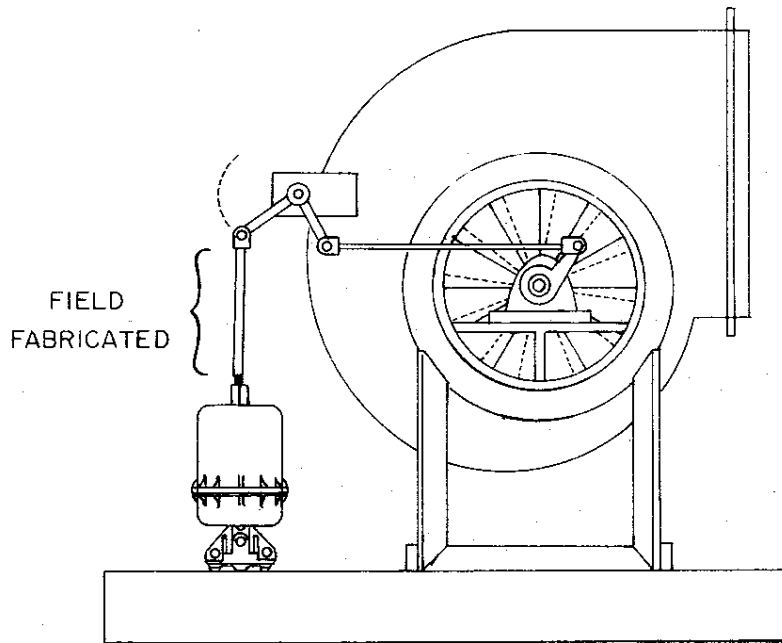

Fig. 7. See Pipe and Bar Stock Applications (page 6)
** Torque for actuator with 20 PSIG (140 kPa) supply, 8 to 13 PSIG (56 to 91 kPa) nominal spring range, and application similar to Fig. 7.